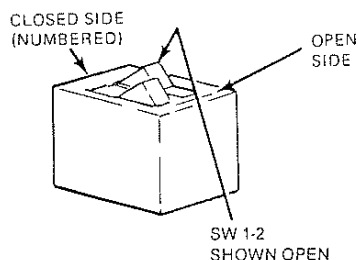

Figure 12.
6. Using a small screwdriver or similar tool, close SW1-2. Refer to Figure 12.